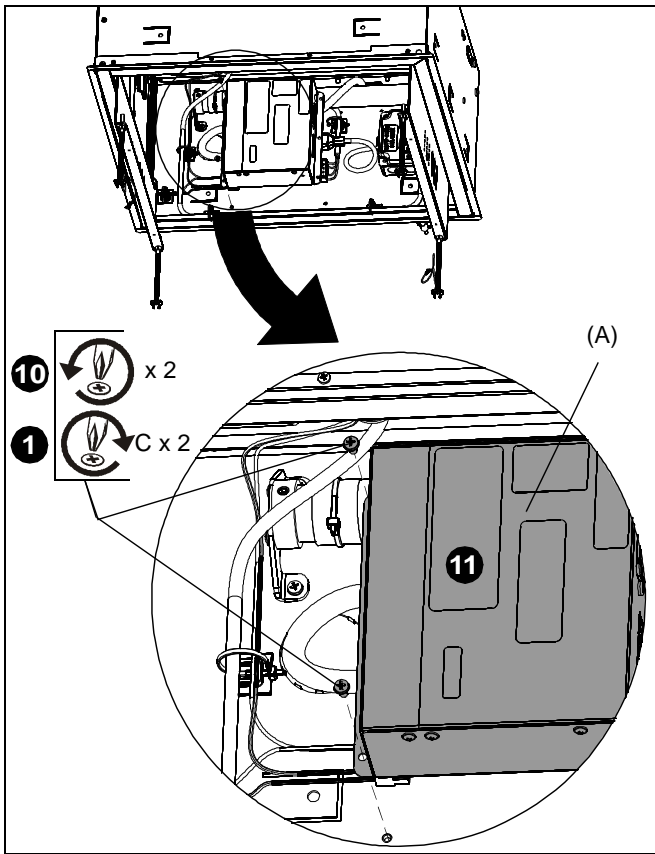

Figure 4
10. Remove and save two Phillips head screws from control box. (See Figure 4)
11. Remove control box from SL151. (See Figure 4)
1. Place new control box (A) into SL151 and fasten with two Phillips screws (removed in Step 10 of **Removing Control Box** section), or two Phillips 8-32 x 5/16" screws (C). (See Figure 4)